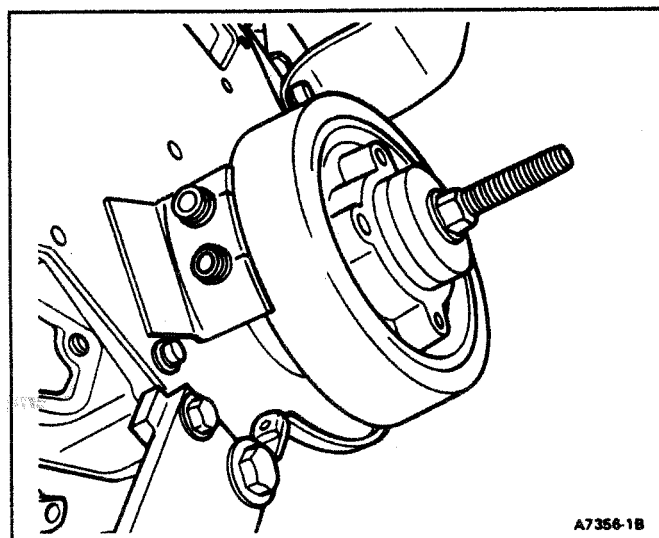

FIG. 32 Crankshaft Damper Installation
1. Lubricate the damper seal nose with clean engine oil and install crankshaft damper using Tool T83T-6316-B (Fig. 32).
22. Lubricate damper seal nose with clean engine oil and install crankshaft vibration damper, using Tools T83T-6316-B (Fig. 32).